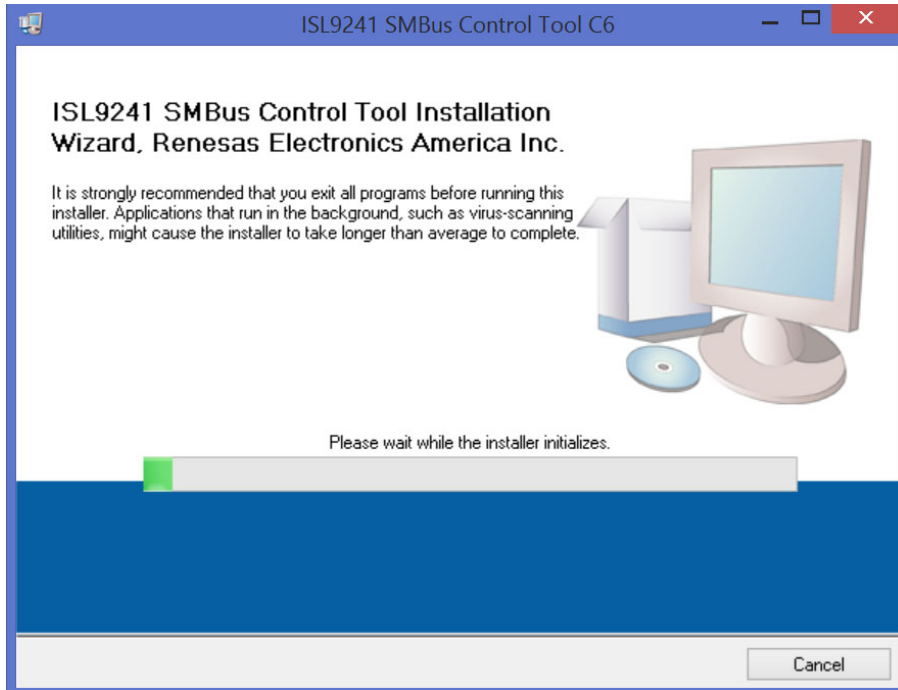

Figure 3. ISL9241 Control Software Installer
- a. The window shown in Figure 3 appears. Click **Next**.